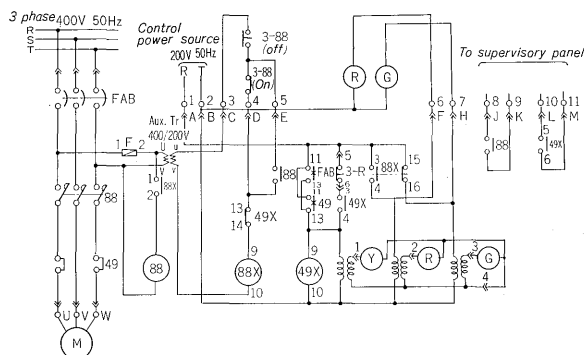

Fig. 11 Standard connection diagram
- 1) Individual system: A control transformer is provided for each unit and the control power supply is obtained from the main circuit within the unit. (Refer to Fig. 11)
As will be clear from Table 5, an auxiliary relay (88X) for main magnet switch (88) is attached on each unit as standard. The coil of 88 is connected to the main circuit voltage irrespective as to whether the individual system or common system, and only the auxiliary relay 88X will be loaded on the control power supply. (Refer to Figs. 11 and 12) Besides the above, DC control power supply system is available upon request.
are desirable to be identical. Accordingly, it must be considered that some blank unit chambers are reserved for mounting the apparatus other than the standard attachable apparatus in Table 5. The typical connection diagrams are shown in Figs. 11 and 12.